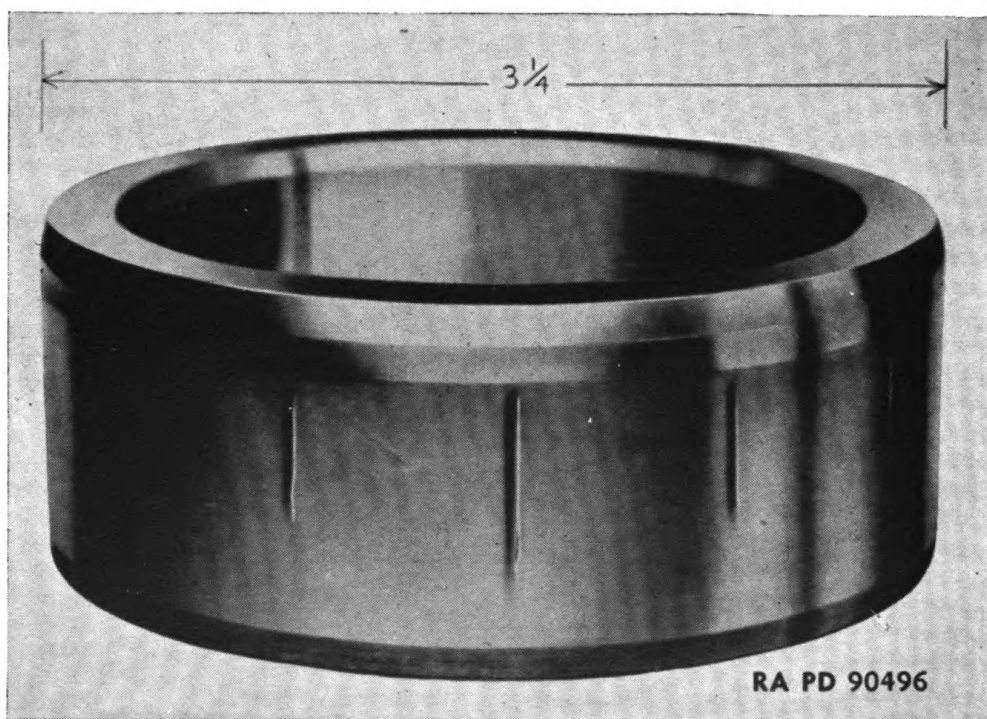
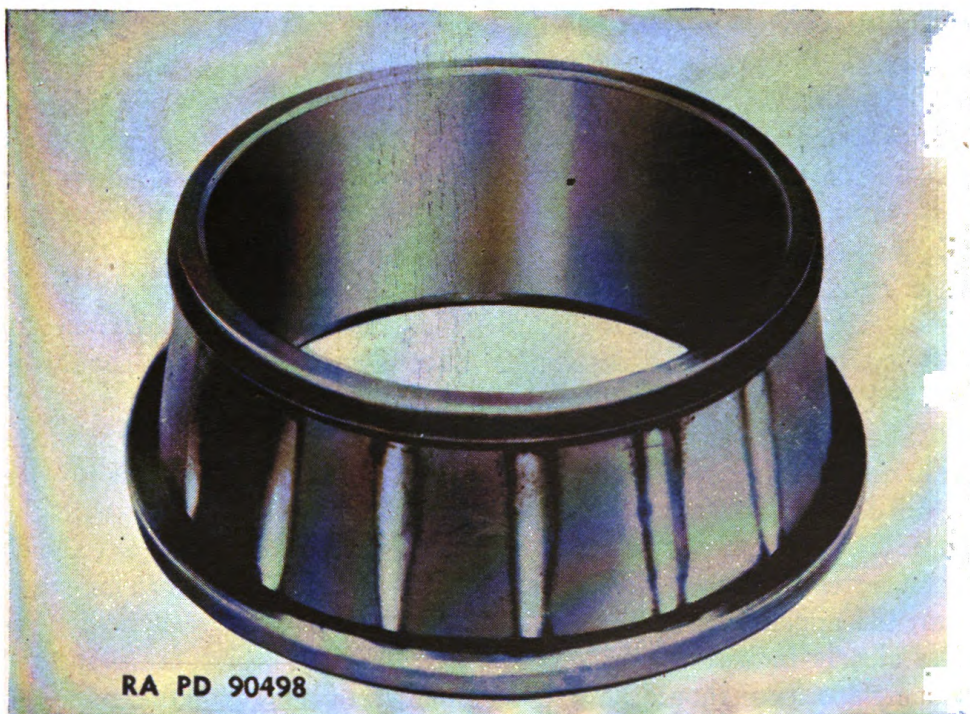

Figure 42. Inner raceway showing indentation or "Brinell" marks of rollers.
Figure 44. Tapered roller bearing cone etched by moisture or acid formation.
(6) "Brinelled" raceways. (See figs. 42 and 43.) Brinelling is caused by impressing balls or rollers into the rings (races) and appears as a series of nicks or indentations under each roller. It often results when the driving force travels through the rollers instead of being applied directly to the press-fitted ring. Hammer blows or sudden or excessive loads may also cause brinelling. Roughness due to brinelling may be detected by slowly rotating the bearing when the inner and outer races are tightly gripped with the forefinger and thumb.
(7) False brinelling resembles true brinelling very closely in appearance, but comes from entirely different causes. Bearings which are subject to vibration or which oscillate through a small arc instead of revolving will show false brinelling.
(8) Scoring is produced by dragging the roller assembly across the surface of the rings in a cocked position or with a heavy load on the bearing. It causes noisy bearing operation and eventually leads to pitting.
(9) Etching by moisture or acid formation. (See fig. 44.)